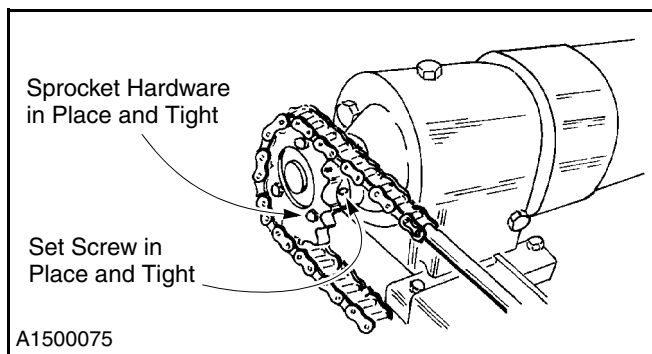

Figure 13
3. Check that the sprocket hardware and set screws are in place and tight. (See Figure 13.)